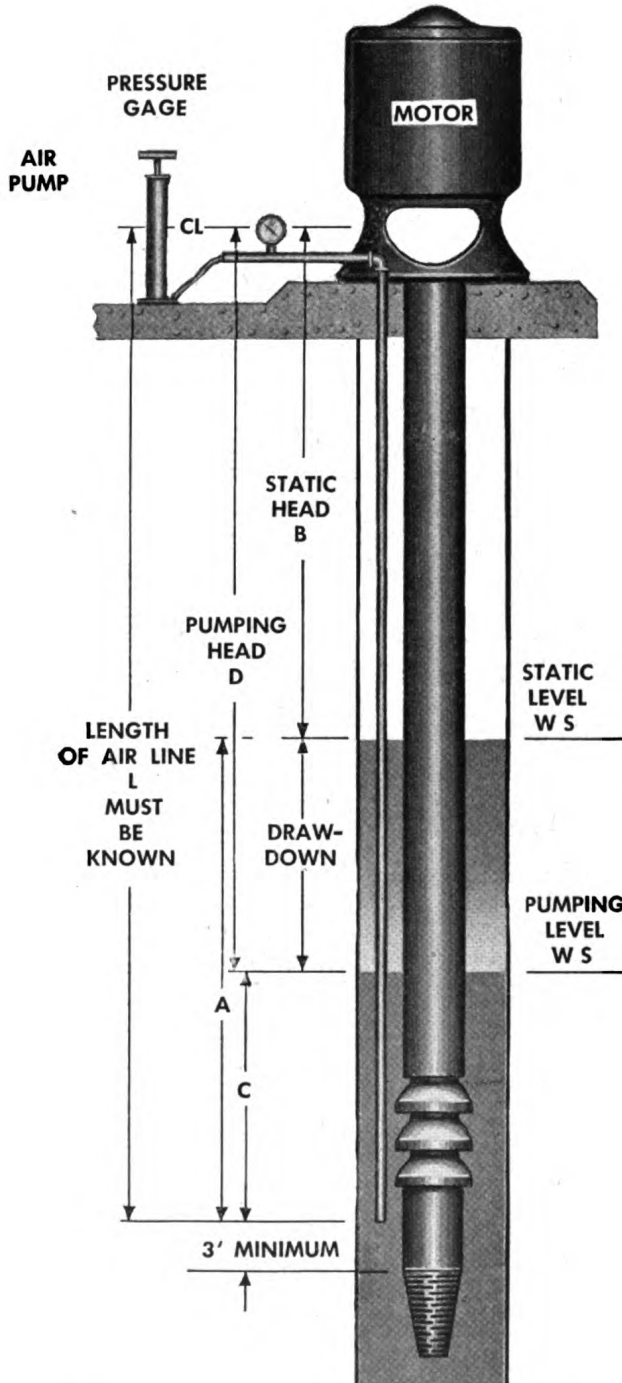

Figure 15. Using air line to find depth of water level.
b. **LEVEL AND DRAW-DOWN GAUGE.** The following is a simple accurate method of checking water level (see also fig. 15):
(1) Lower small 1/4-inch air-line pipe (telltale) of known length into well. Place tee in the line above ground, fitting a pressure gauge into one connection and an ordinary bicycle (Schraeder) valve with bicycle pump attached into the other. Make all joints airtight.
(2) When well pump is not operating, apply pressure through bicycle pump until gauge needle no longer registers increased pressure. As air is forced into the line, gauge registers pressure required to force water out of submerged portion of pipe. Deduct this pressure converted to feet (pounds pressure x 2.31) from known length of 1/4-inch air-line pipe to get static level of water below air gauge.
(3) Start pump and observe gauge until reading no longer changes, pumping in additional air as needed to make up for any leakage. Again deduct this pressure reading converted to feet from the known length of air-line pipe to get pumping level below air gauge. Difference between static level and pumping level equals draw-down.